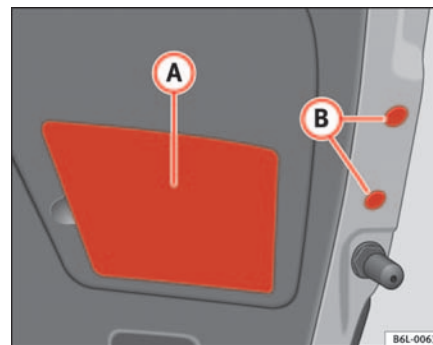

Fig. 153 Rear light on tailgate
- Remove the plastic cover **(A)** ⇒ page 211, fig. 153 and the plastic caps **(B)** ⇒ page 211, fig. 153 carefully levering using a screwdriver using the flat part of a screwdriver; avoid damage to the paintwork.